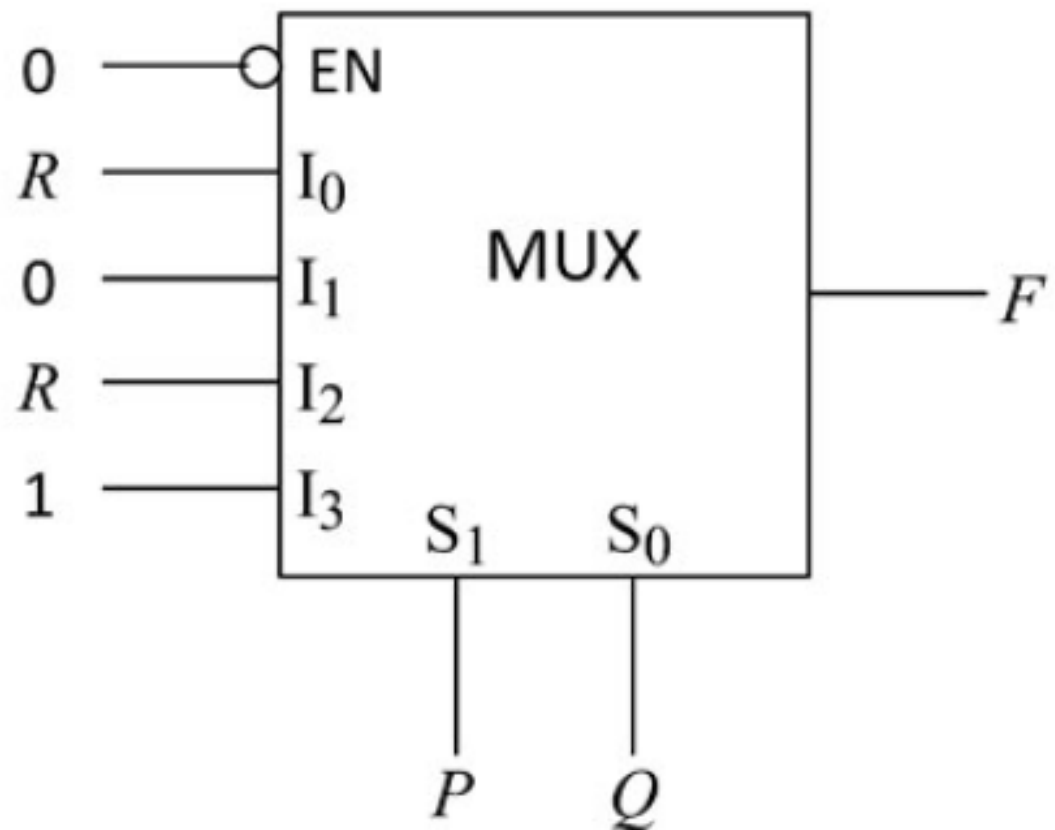

Figure 4.9:
14. Fig. 4.9 below shows a multiplexer where S0 and S1 are the select lines, I0 to I3 are the input lines, EN is the enable line and F(P,Q,R) is the output. Find the boolean expression for output F as function of inputs P,Q,R using K-map. (GATE EC 2020)